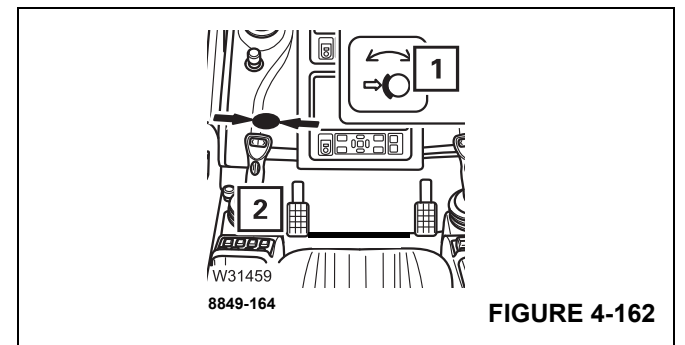

FIGURE 4-162
The lamp (1), (Figure 4-162) will light up if the swing brake has been applied.